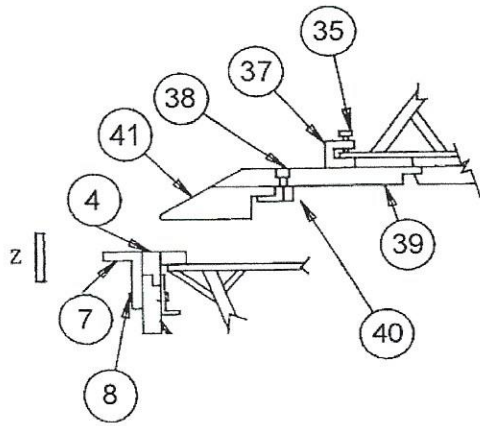

Fig. 1
Remove angle bar, Item 7 (fig. 1) to form a 1/2" or greater offset. Use optional 1/4" insert bar (Z) to form smaller offset. NOTE: Forming capacity is greatly reduced with angle bar removed.
The forming capacity of the brake is effected by the arrangement of the bending leaf angle bar, Item 7 (fig. 1) and the insert bar, Item 4 (fig. 1).